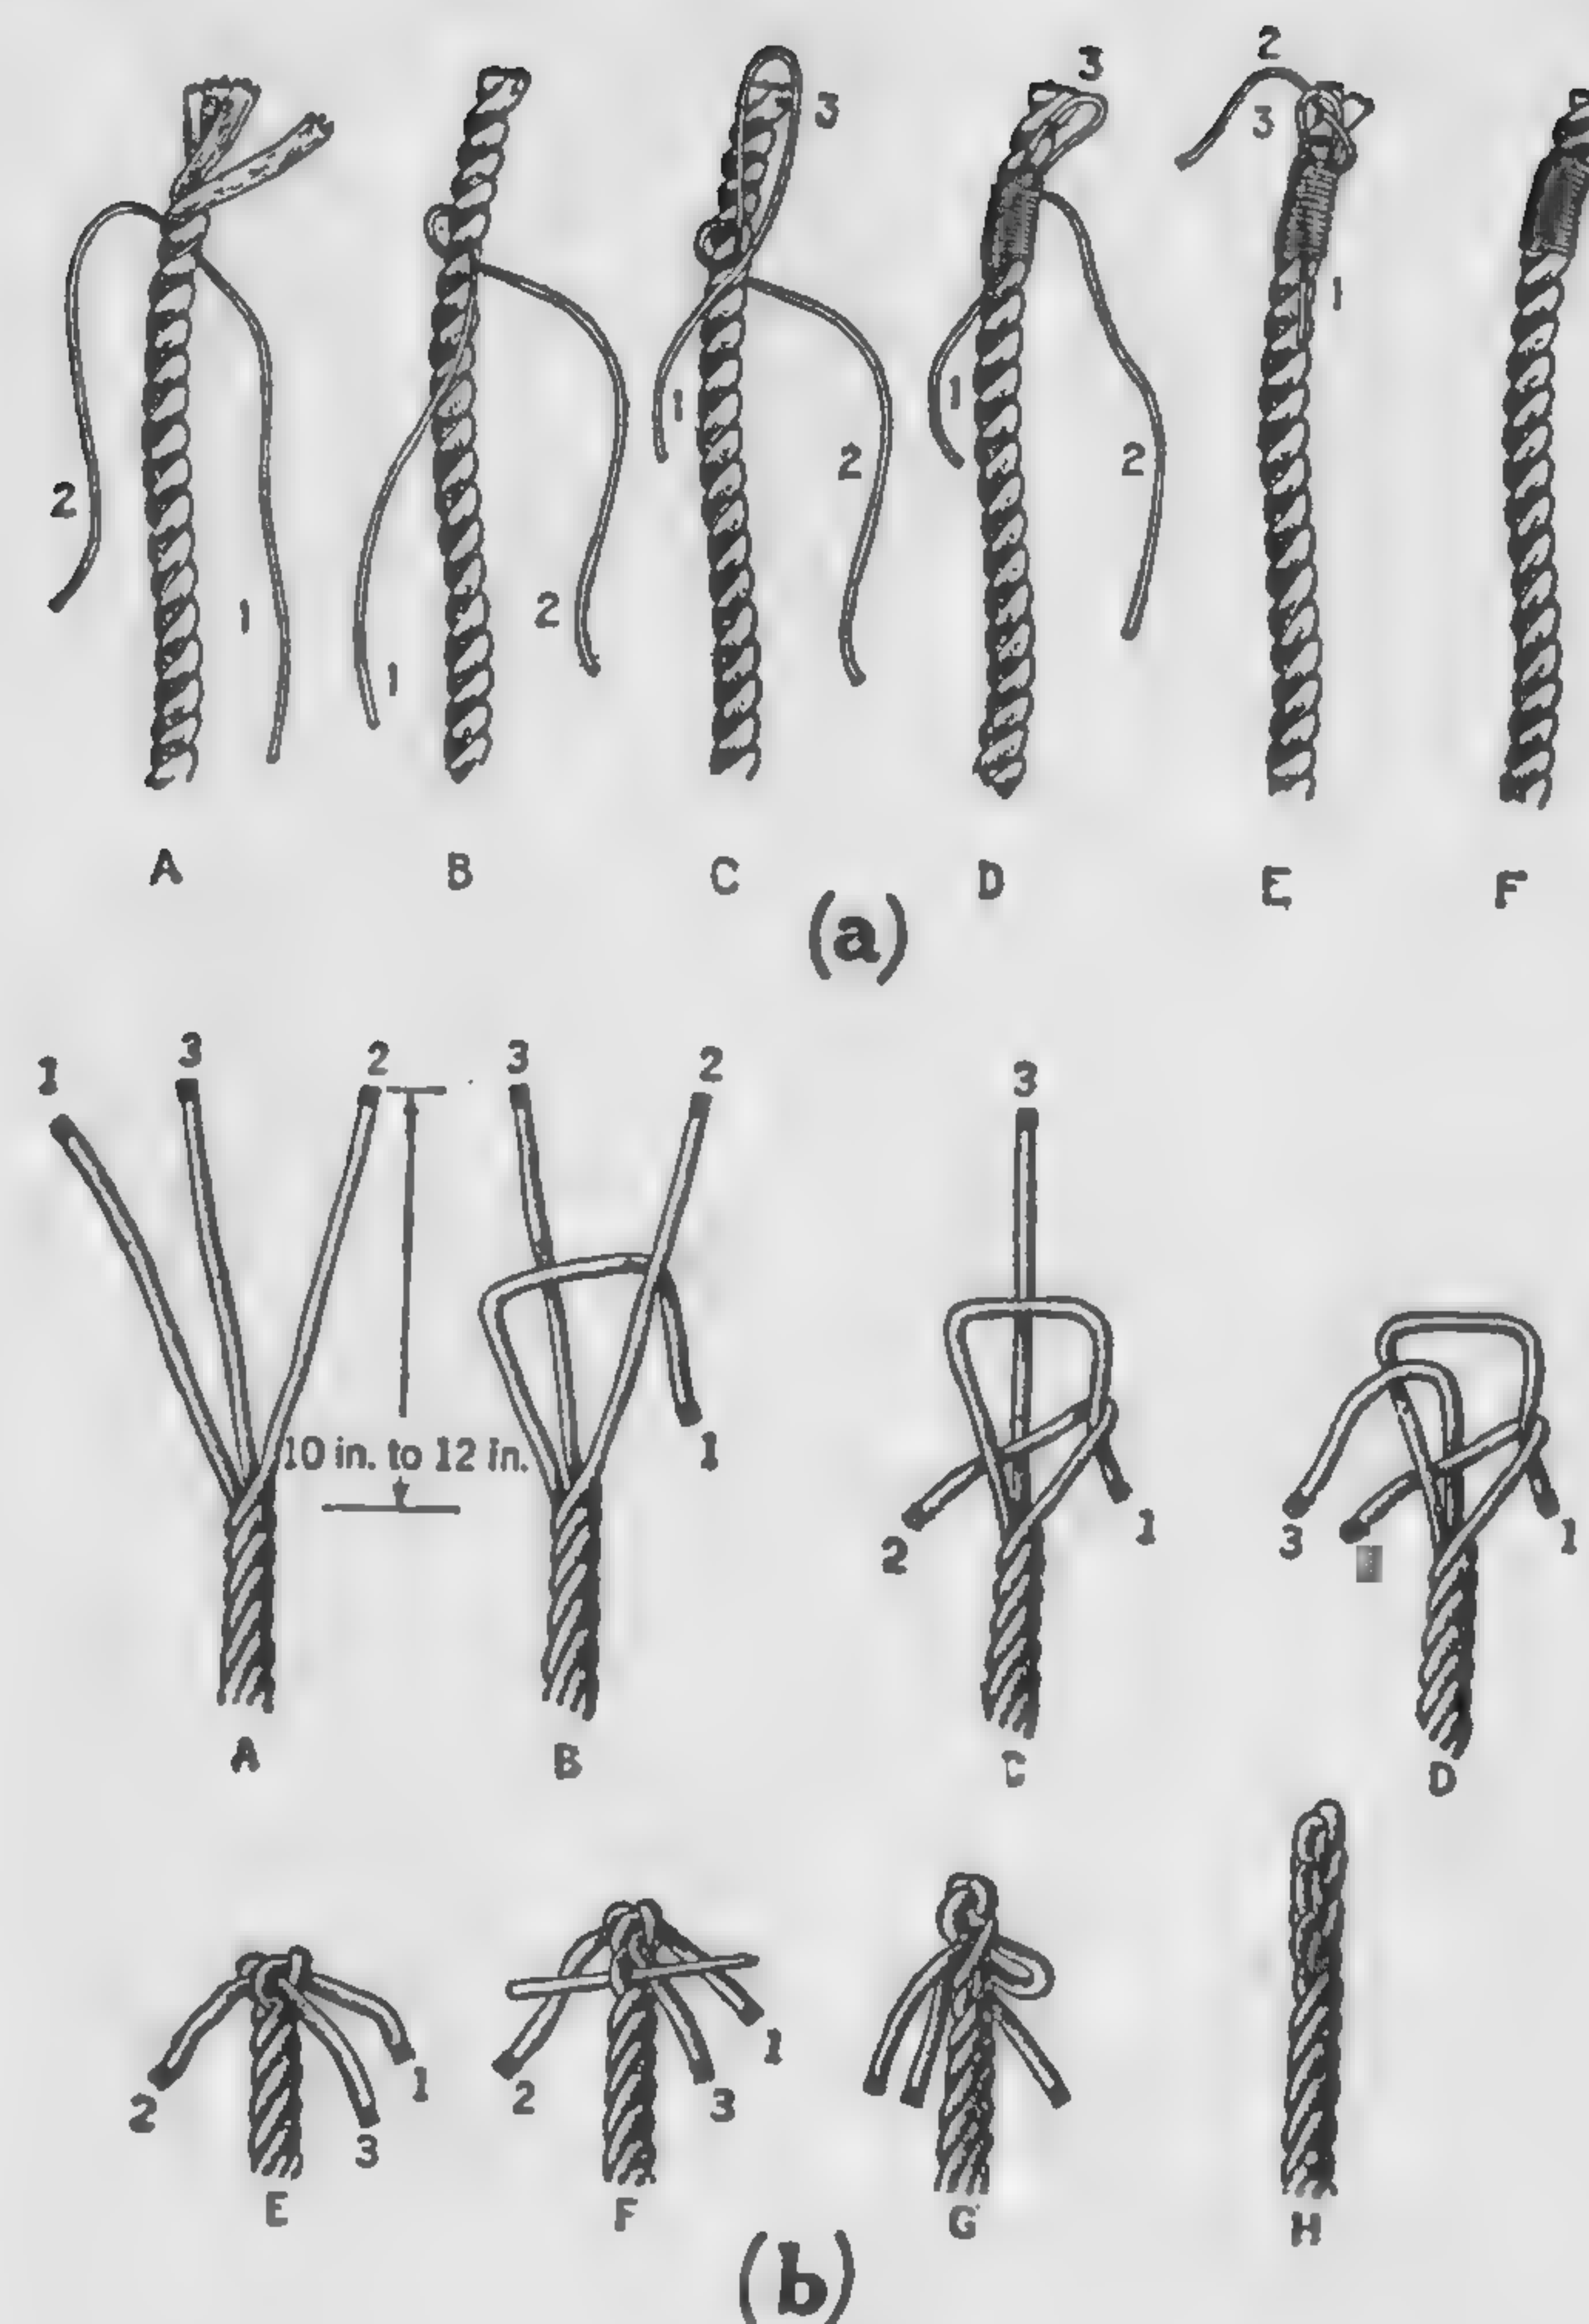

Fig. 2
Serving Splice (Whipping). The operations required to serve the ends of a rope are as follows: See Fig. 2 at (a).
1. Unlay one strand of the rope back a little more than one turn, to a point where the serving is to begin. Under this strand lay the twine, leaving the end marked 1, 8" to 10" long as shown in the upper left of Fig. 2 at A. Then relay the strand into the rope, keeping it tightly twisted and held firmly in place.
Crown Splice. See Fig. 2 at (b).
1. Unlay the rope for 10" to 12" and hold it in one hand with the loose ends up as shown at left center A of Fig. 2.